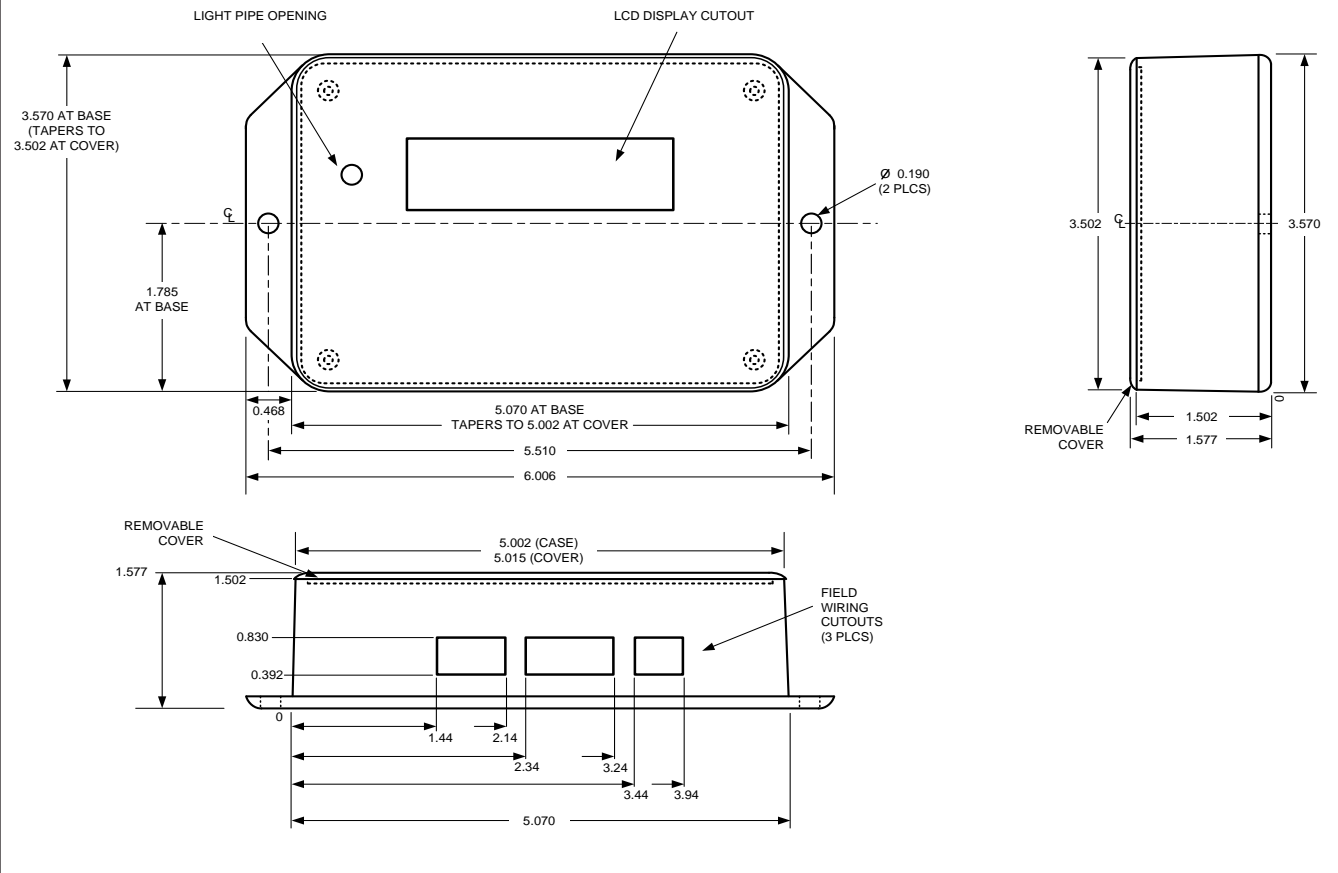

Figure 3. GA-200-N Mechanical Detail Drawing
3. ☐ Refer to Figure 3 and mark the two mounting holes located on each of the enclosure side flanges.